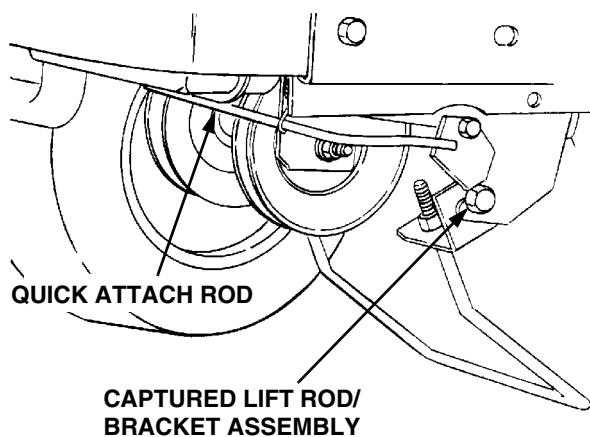

Figure 31
7. Release the tractor quick-attach rod to capture the front lift rod/bracket assembly in the tractor latch receivers (See Figure 31).